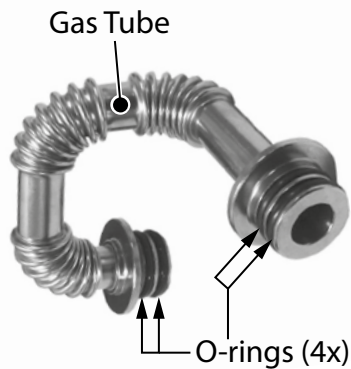

Figure 5 - Install O-rings to gas tube
- Locate the new gas tube and four (4) O-rings provided in the kit. Install O-rings to grooves located on each end of gas tube as shown in Figure 5. Install gas tube to venturi and gas valve.